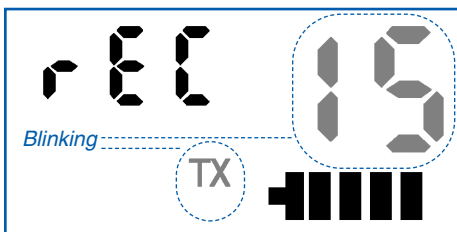

Fig. 7b: Weather Channel Mode Error Display
- You cannot transmit on receive-only channels like the Weather Channels or Channels 15 and 70. If you try, an error tone will sound and the channel number and TX indicator will blink three times (Fig. 7b) and then go back to the normal display.